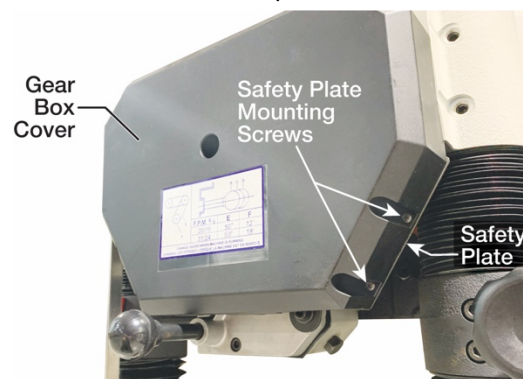
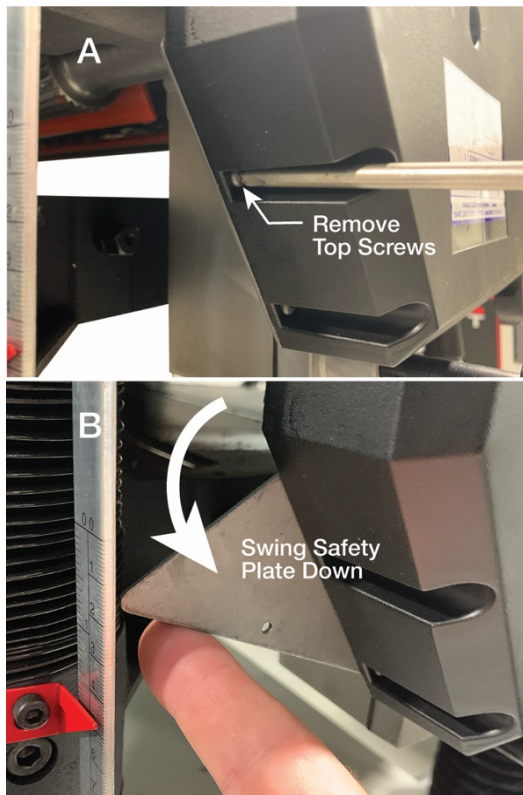

Figure 31
Figure 32
3. There are two safety plates attached to the rear of the gearbox cover. These plates are on each side of the gearbox cover and can't be seen when the cover is installed. The safety plates are held in place by mounting screws which are accessed from the front of the gearbox cover (see Figure 31). Remove the top mounting screws on each safety plate (see Figure 32). Reach behind the gearbox cover and swing both safety plates down (see Figure 32). You may need to slightly loosen the lower mounting screws to allow the safety plates to pivot. Also, when pivoting the right-side safety plate, it may contact the table locking knob. This problem will be taken care of in step 4.